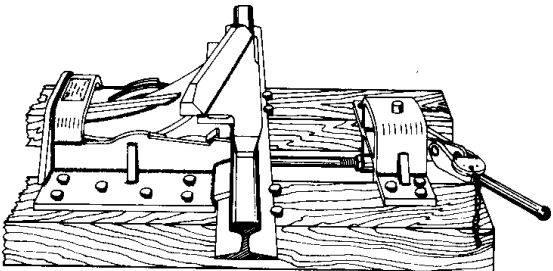

Figure 23 - Operating Stand Close Coupled to Model HB
- 8.3 The Close-Coupled Operating Stand, Figure 23, is the same in construction and functions as our regular Operating Stand except long ties are not required. The staff is cut off 1/2" above base forging, vanes and lamp tip are not used due to closeness of stand to rail to provide standard clearance. Connecting rod is 37" long. Weight with connecting rod is 76 lbs.